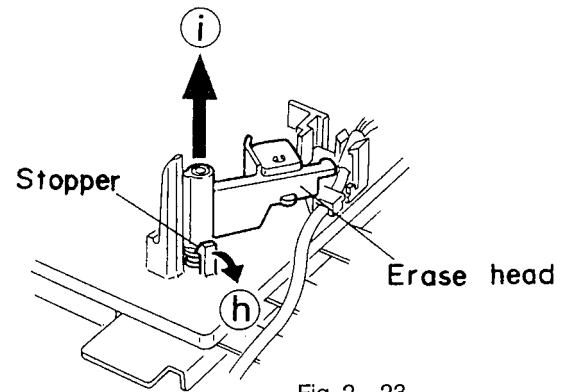

Fig. 2 - 23
■ Flywheel assembly (Fig. 2 - 24)
1. E. washer retaining the flywheel assembly in the direction of arrow ⑤.
2. Pull the flywheel assembly out of the back side of the cassette mechanism in the direction of the arrow ⑥.